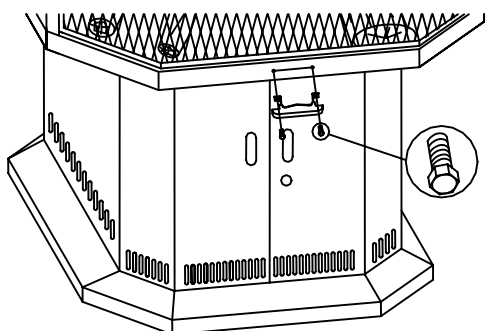

Figure 10-Handle installation
- Attach the handle to the middle base with 2 hex head screws provided. (See FIG.10)